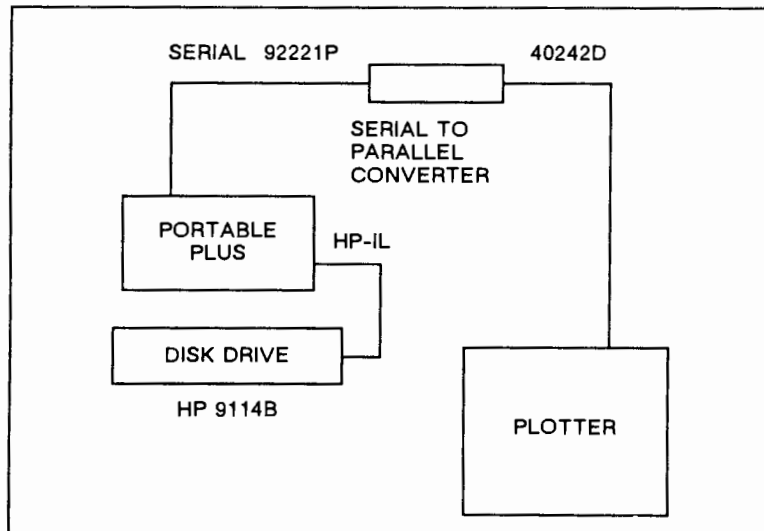

Figure 5-12. Parallel Test
e. Connect the Portable PLUS as shown in Figure 5-12.